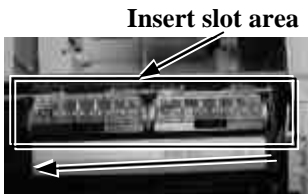

Fig 2 Insert slot area
3. Pull both the receipt lever and journal lever forward to raise the print anvil assembly. Use the attached soft brush to clean the insert slot area in the direction as indicated in Fig.2. Brush gently away the dust and paper residuals in the direction from the journal end to the receipt end.